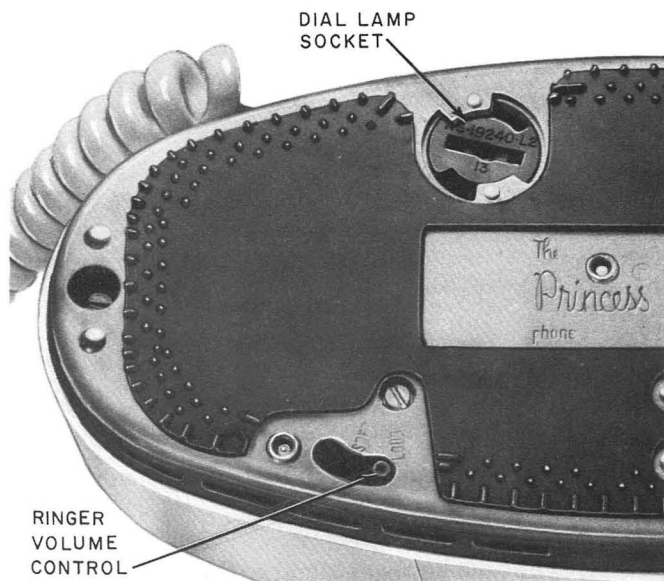

Fig. 5—2702D (MD) or DM (MD) Telephone Set, Partial Bottom View
- **Ringer Volume Control:** provides manual control of ringer volume on 2702D (MD) or DM (MD) sets (Fig. 5).